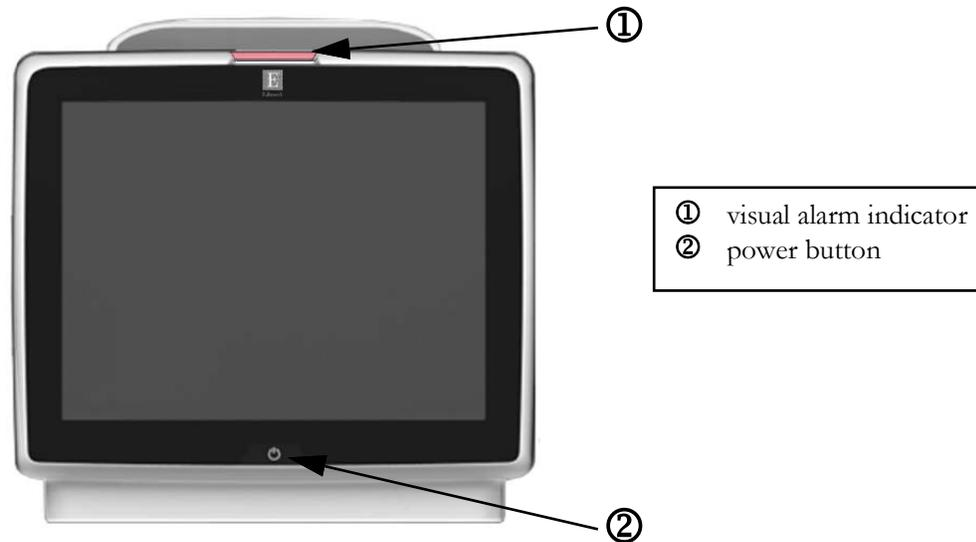

Figure 3-1 HemoSphere advanced monitor front view
To power the monitor off, touch the power button. See ② in Figure 3-1 on page 70. The following options will be displayed: